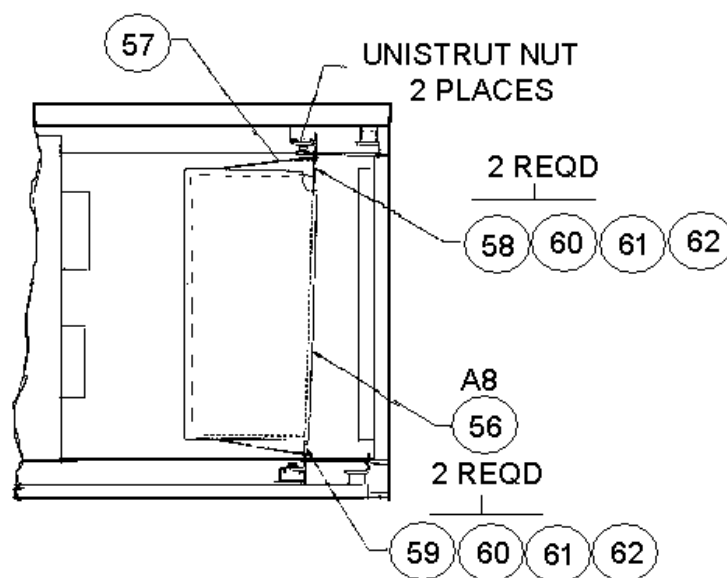

FIGURE 1. BATTERY BOX POSITION IN ACU
3), , with the appropriate hardware as shown in Figure 1.
(59) 40180-
12. Place battery box P/N 62828-40262- (56) 20, , on the bottom of the ACU (behind the blower). Refer to Figure 1.
13. Hook strap P/N 62828-90250-1, (57) , around battery box. Refer to Figure 1.